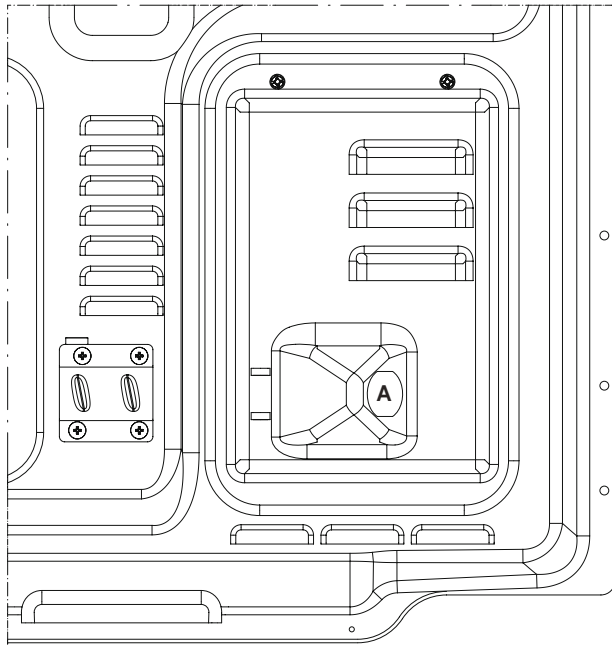

Figure 8
3. Put conduit cable through the opening of the panel (A).
4. Attach conduit cable to terminal block in accordance to the corresponding color order (See figure 8) by removing the intended screw, slipping the wire onto screw and rescrewing it back into position.